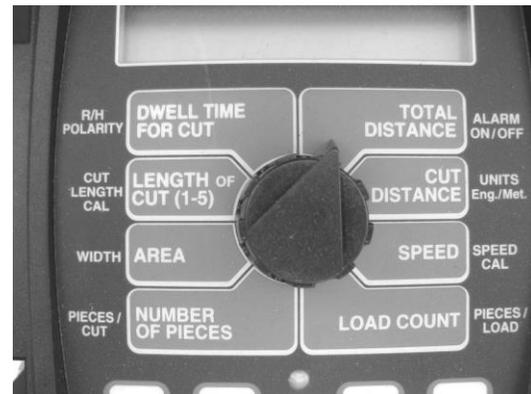

Figure 4—Rotary switch in the TOTAL DISTANCE position.
3. Turn the rotary switch to the TOTAL DISTANCE position (**Figure 4**). Press and hold the reset button (DEC) for approximately one second.